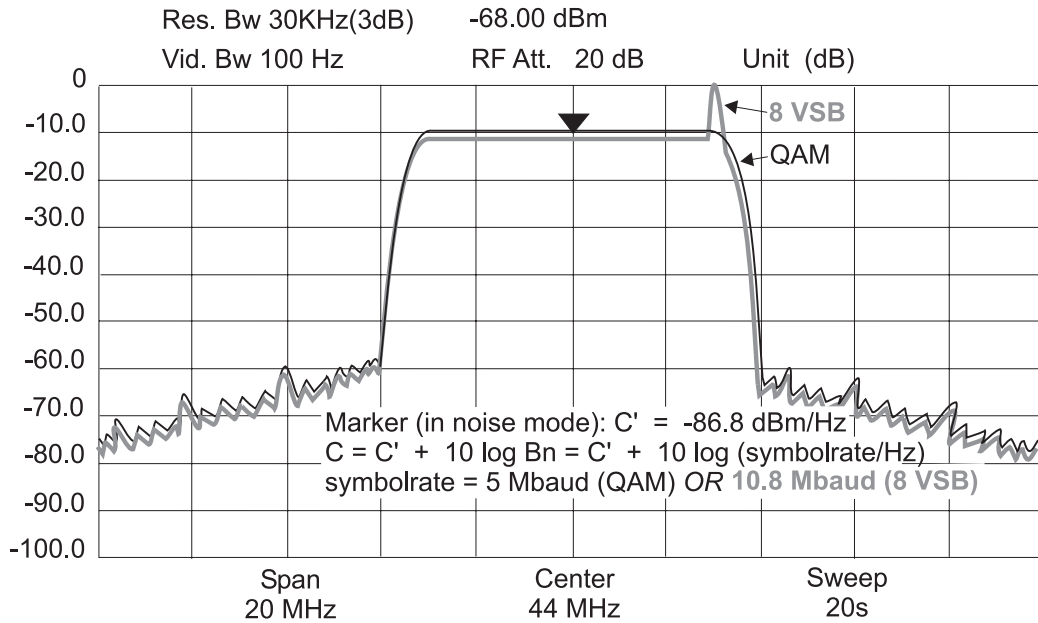

Figure 8. Measuring QAM and 8VSB Signal Levels with a Spectrum Analyzer
The QAM 64, QAM 256, or 8 VSB IF signal applied to the encoder must be between -23 and -5 dBm with 50 ohm impedance, or between -24.8 and -6.8 dBm with 75 ohm impedance. See Figure 8 for assistance in measuring the level of QAM and 8VSB signals with a spectrum analyzer.
4. Connect a power meter to the front panel IF MON port, and measure the signal power level. If a power meter is not available, connect a spectrum analyzer to the front panel IF MON port, and measure the power level. See Figure 8 for an explanation of how to measure QAM and 8 VSB signal power levels with a spectrum analyzer. See Table 6 for typical readings for QAM 64 IF on the High Performance IF cards. See Table 7 for typical readings for QAM 256 IF on the High Performance IF cards, and Table 8 for typical readings for 8VSB IF on the High Performance IF cards. The signal at the front panel monitor port is identical to the output at the rear of the shelf.